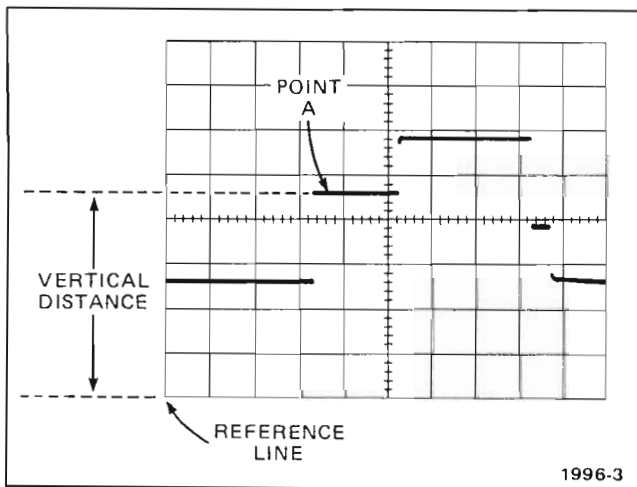

Fig. 1-3. Measuring instantaneous voltage with respect to a reference voltage.
6. Measure the distance in divisions between the reference line and the point on the waveform at which the dc level is to be measured. For example, in Fig. 1-3, the measurement is between the reference line and point A.
EXAMPLE: Assume the vertical distance measured is 4.6 divisions (see Fig. 1-3), and the waveform is